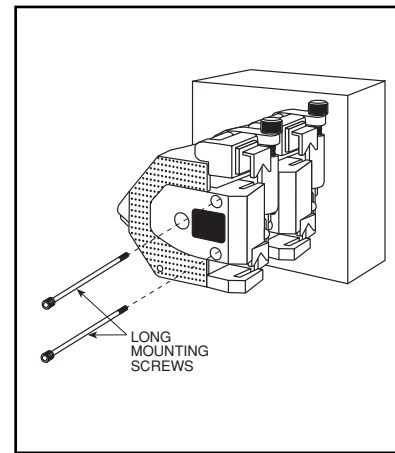

Figure 3-7. Securing Both Pumps to the Motor
5. Refer to Figure 3-7. With the pumps and motor aligned, insert the optional LONG mounting screws through the mounting holes in both pumps, until they make contact with the threaded mounting holes in the motor.